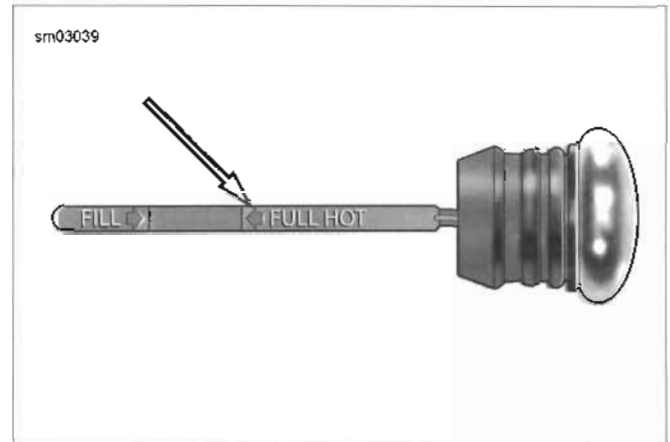

Figure 1-2. Oil Tank Dipstick Upper Groove
4. See Figure 1-2. Check oil level on dipstick. If necessary, add oil until oil registers at upper groove on dipstick (FULL HOT). Do not overfill oil tank.
10. See Figure 1-2. Add engine oil to bring oil level to the upper groove on the dipstick (FULL HOT).